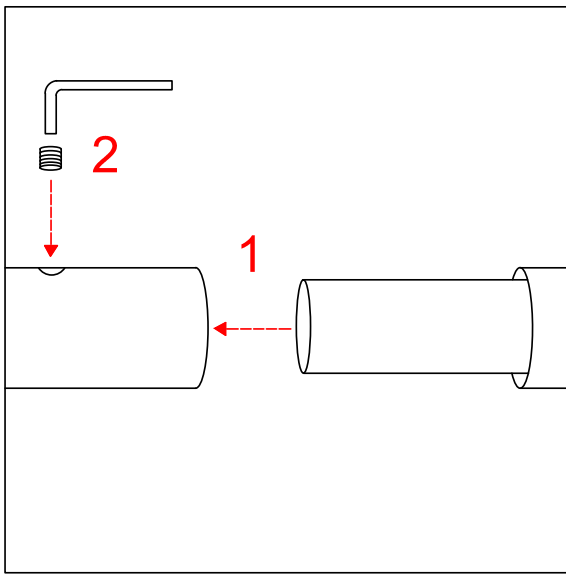

Fig. 1
- B. Insert splice connector (8" to 10" long piece of tubing that is ¼" smaller in diameter than the rod) halfway into each rod end. [Fig. 1]